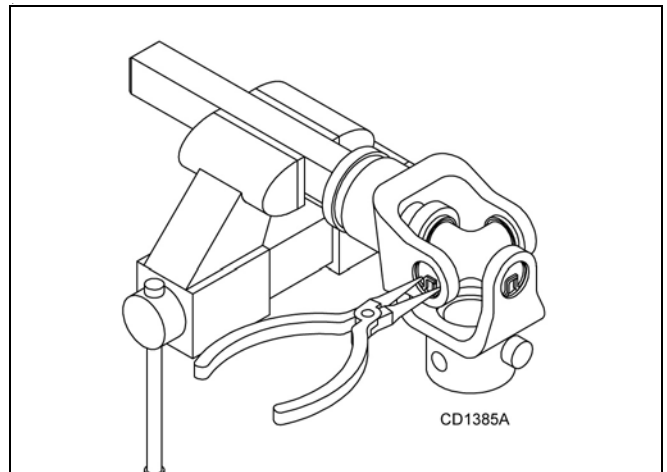

Figure 23
1. Remove external snap rings from yokes in four locations as shown in Figure 23.